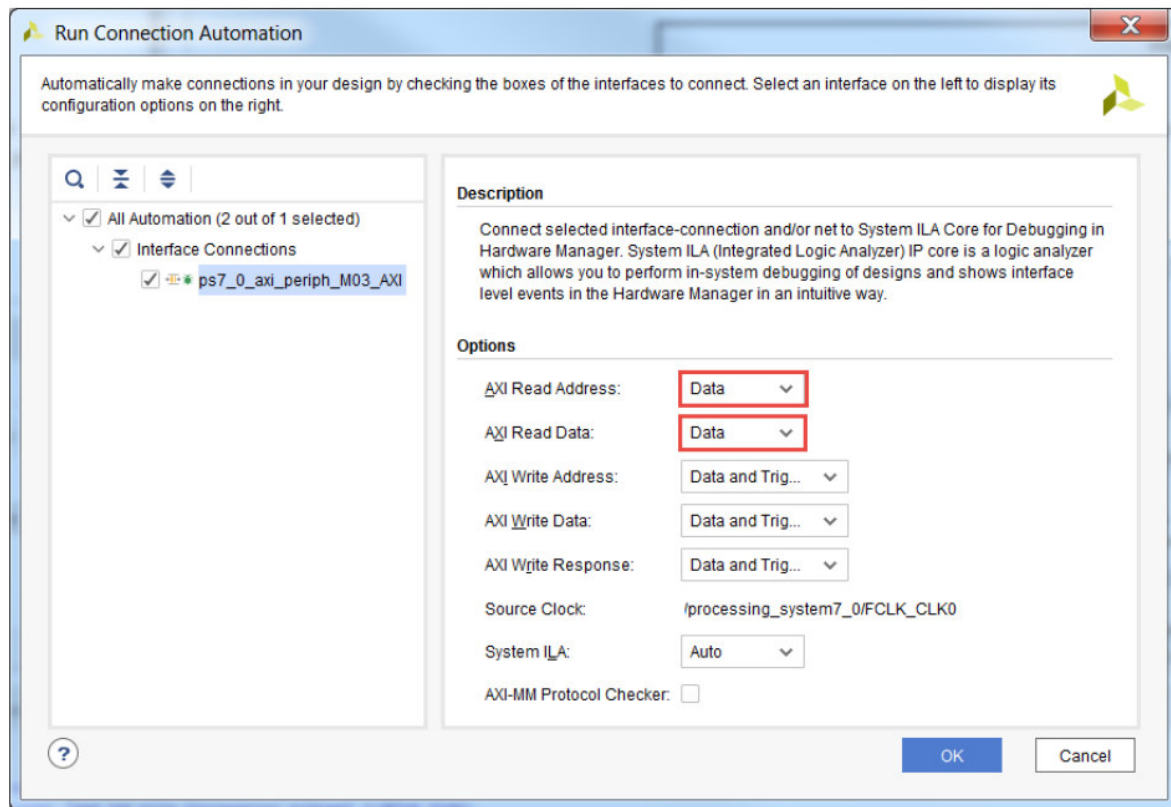

Figure 4: Selecting channels for debugging
- Change **AXI Read Address** and **AXI Read Data** channels to **Data** since we will not trigger any signals of those channels. This saves resources being used by the design. See Figure 4.